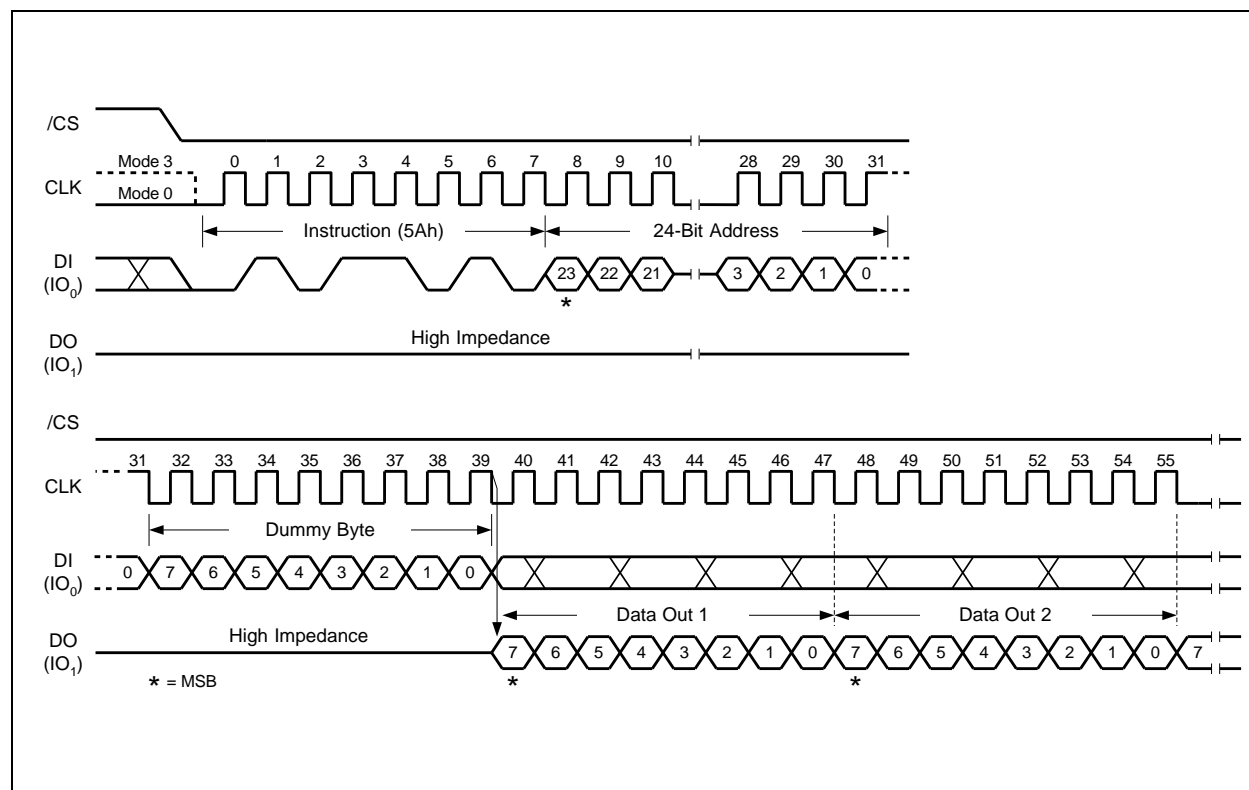

Figure 34. Read SFDP Register Instruction Sequence Diagram (SPI Mode only)
The Read SFDP instruction is initiated by driving the /CS pin low and shifting the instruction code “5Ah” followed by a 24-bit address (A23-A0)(1) into the DI pin. Eight “dummy” clocks are also required before the SFDP register contents are shifted out on the falling edge of the 40th CLK with most significant bit (MSB) first as shown in Figure 34. For SFDP register values and descriptions, please refer to the Winbond Application Note for SFDP Definition table.